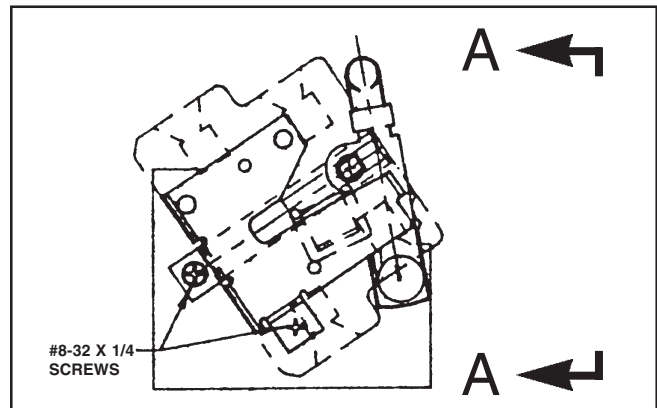

Fig. 1
3. Refer to Fig. 1: Mount the auxiliary switch bracket with (2) #8-32 x 1/4 screws and (2) lockwashers to the side opposite of the mechanism as shown.